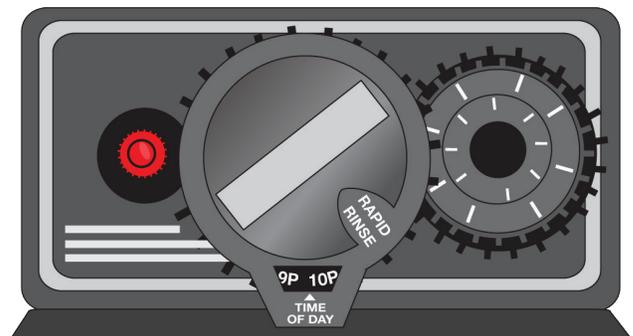

FIGURE 12 - RAPID RINSE position
3. Rotate the control knob at the top of the filter tank **SLOWLY** clockwise to **RAPID RINSE** [See Page 16, Figure 12] (between 4:00 and 5:00). Stop and leave it on **RAPID RINSE** for 2-3 minutes. Water will run out of the rinse line during this time.